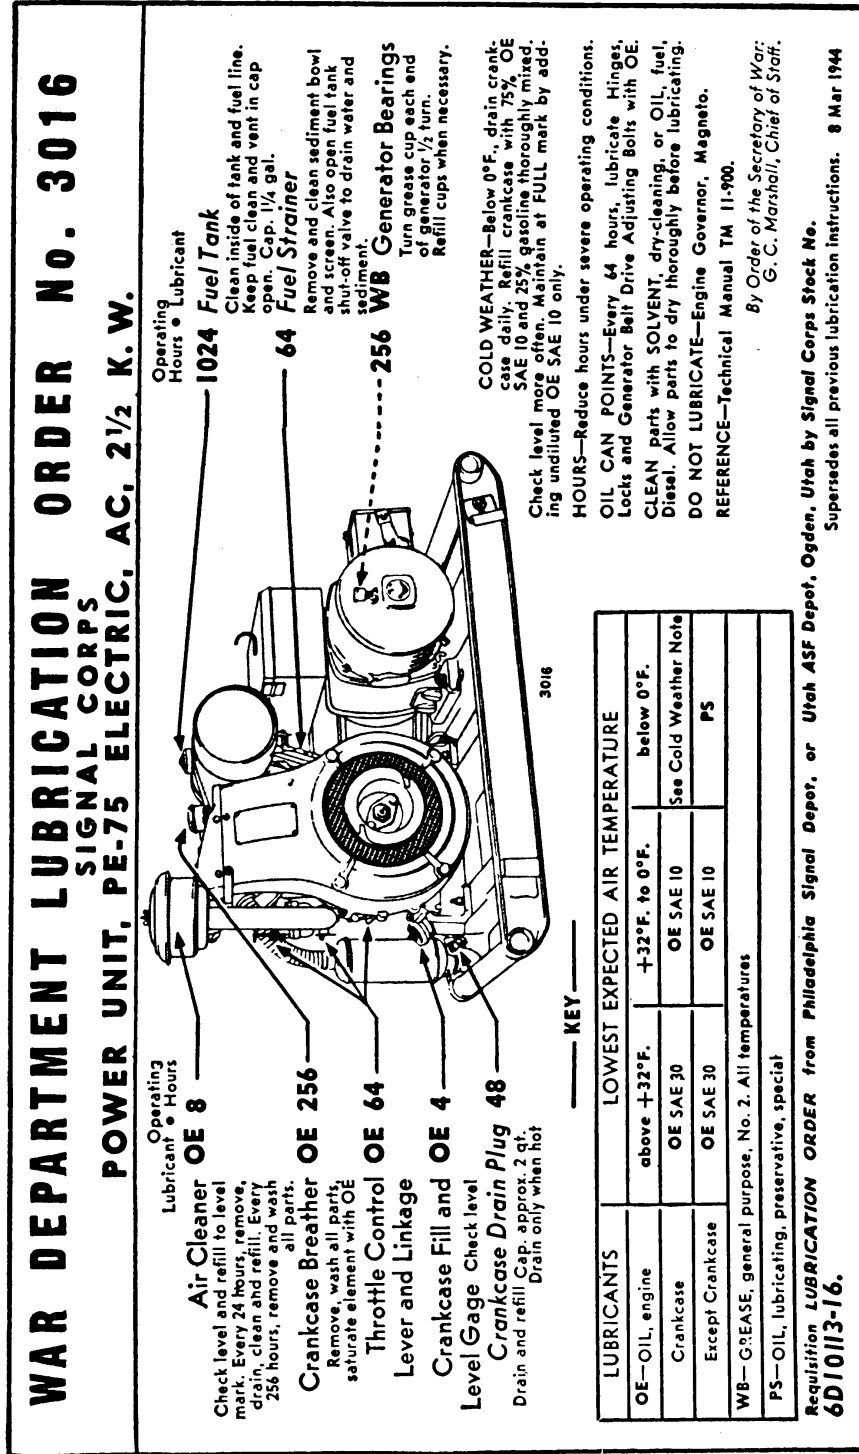

FIGURE 3.1.—War Department lubrication order.
(1) Connect the ground terminal on Power Unit PE-75-(*) outlet box to the chassis of the switchboard or radio unit.
- (2) Make no connection to the ground terminal of the unit:
- (3) If the above measures do not help, put a grounded metallic screen around the power unit. (Radio interference can be decreased by locating the power unit farther away from the radio station.)
a. Before starting the engine, fill the crankcase with the proper grade of oil as shown in the War Department lubrication order (fig. 3.1). Also, follow the instructions on the lubrication order for filling the air cleaner.
c. Remove the grease cups at each end of the generator and fill them with grease according to instructions given in the War Department lubrication order (fig. 3.1). Replace the cups and turn them down a few turns. Be sure that both oil and gas caps have been replaced. Check all gasoline lines and connections for possible leaks, and make certain that all electrical connections are tight.
b. Bearings. The generator is * * * by grease cups. Keep the grease cups filled, and give the cap a half-turn every **256** hours of operation. Every **1,024** hours of running time, repack the bearings with grease, as follows: expose the bearing, clean it with a **dry-cleaning solvent**, and repack it with the grease specified in the **War Department lubrication order** (fig. 3.1). **Do not overlubricate.**